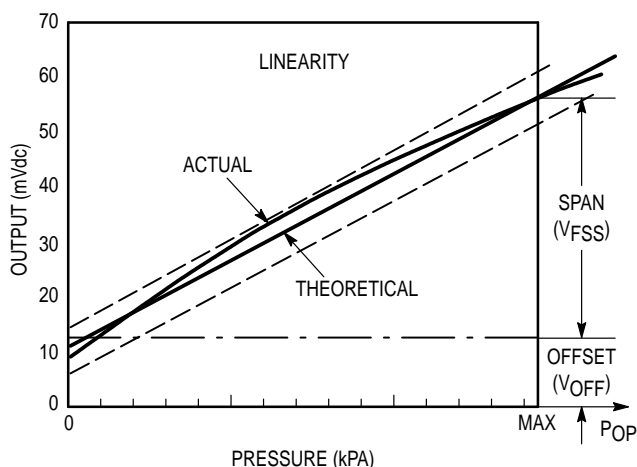

Figure 2. Linearity Specification Comparison
Linearity refers to how well a transducer's output follows the equation:  $V_{OUT} = V_{OFF} + \text{sensitivity} \times P$  over the operating pressure range (see Figure 2). There are two basic methods for calculating nonlinearity: (1) end point straight line fit or (2) a least squares best line fit. While a least squares fit gives the "best case" linearity error (lower numerical value), the calculations required are burdensome.